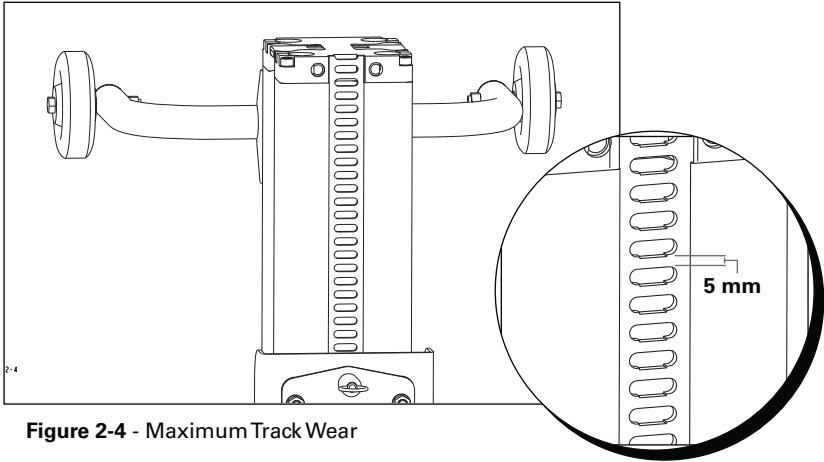

Figure 2-4 - Maximum Track Wear
- 7. Track Sections** - Check that the teeth of all the track sections are not excessively worn (5 mm tooth remaining), bent, misshapen or missing. (See Figure 2.4)